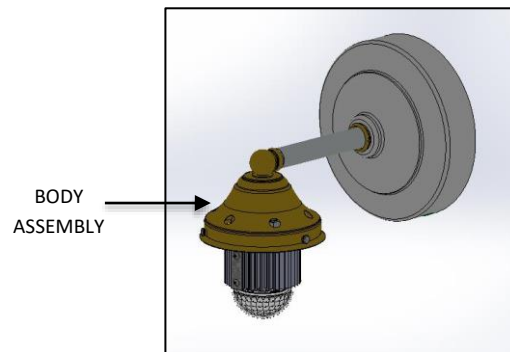

FIG.2 – BODY ASSEMBLY
1. BODY ASSEMBLY (Pre-assembled as shown in FIG. 2)